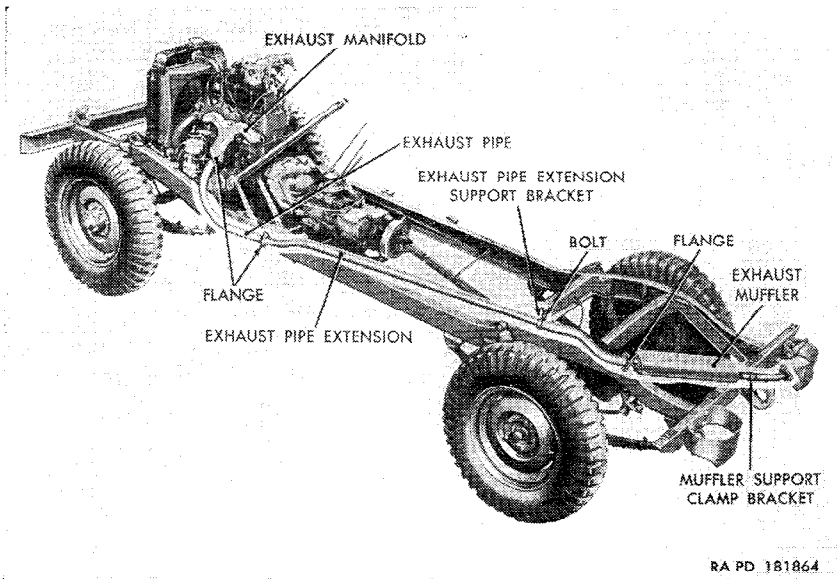
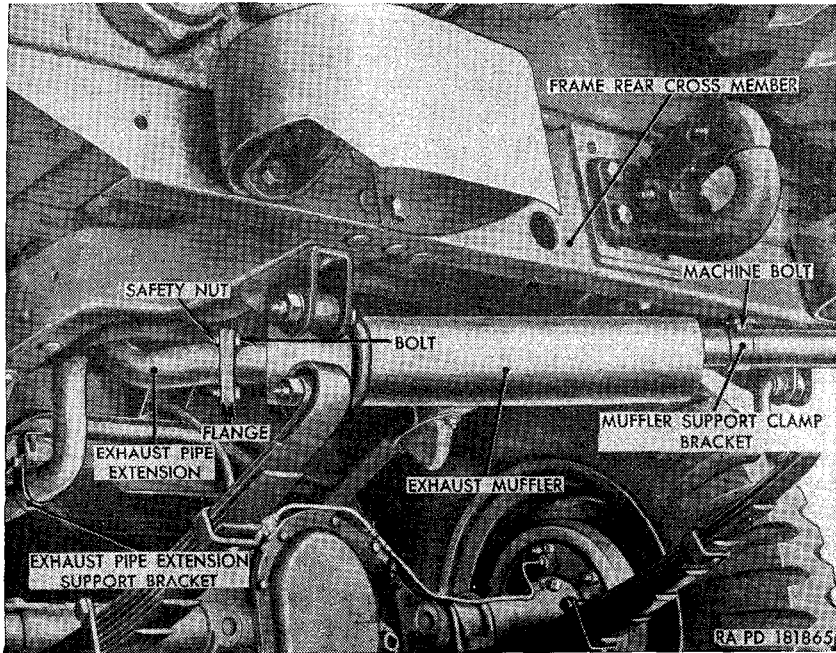

Figure 73. Exhaust system.
Figure 74. Exhaust muffler with bracket assembly—installed.
The exhaust system (fig. 73) includes the exhaust muffler, the exhaust pipe extension, and the exhaust pipe. The system is supported at three points—the exhaust pipe is secured to the exhaust manifold of the engine; the exhaust pipe extension is secured to the frame by a bracket and spacer; and the muffler is secured to the frame by a muffler support clamp bracket around the tail pipe of the muffler assembly.
(fig. 74)
- (1) Remove the three nuts and bolts securing the exhaust pipe extension to the exhaust pipe (fig. 73).
- (2) Remove the three nuts and bolts securing the exhaust pipe extension to the exhaust muffler (fig. 74).
- (3) Loosen the bolt securing the muffler support clamp bracket to the frame rear cross member and slide the muffler back about one inch.
- (4) While supporting the exhaust pipe extension, remove the nut, washer, spacer, and bolt securing the exhaust pipe extension support bracket to the frame cross member.
- (5) Separate the front flange of the exhaust pipe extension from the rear flange of the exhaust pipe, and remove exhaust pipe extension with bracket. Separate and discard gasket from both flanges.
- (1) Clean the flange gasket surfaces. Loosen the nut and bolt in the clamp at the exhaust pipe extension support bracket (fig. 74). Place the exhaust pipe extension in approximate position under the vehicle with the offset end toward the exhaust muffler (fig. 73).
- (2) Insert a  $\frac{5}{16} \times 1\frac{1}{2}$  machine bolt through the bracket (fig. 74) hole and slip the exhaust pipe extension spacer over the bolt. Raise the exhaust pipe extension with bracket into position with the bolt end inserted into the frame cross member hole. Place a  $1\frac{1}{32}$  ID  $\times$   $1\frac{1}{16}$  OD washer over the bolt and screw a  $2\frac{5}{16}$ -inch nut on the threads enough to support the exhaust pipe extension weight.
- (3) Place a new gasket on the front flange of the exhaust pipe extension (fig. 73) and insert three  $\frac{5}{16} \times 1$  bolts through the exhaust pipe flange, gasket, and exhaust pipe extension flange. Start three  $\frac{5}{16}$ -inch nuts on the three bolts, but do not tighten.
- (4) Place a new gasket on the flange of the exhaust muffler (fig. 74). Pull the muffler forward and insert three  $\frac{5}{16} \times 1$  bolts through the muffler flange, gaskets, and rear flange of the exhaust pipe extension. Start three  $\frac{5}{16}$ -inch nuts on the bolts, but do not tighten.
- (5) Tighten the bolts and nuts securing the exhaust pipe extension to the exhaust pipe. Tighten the bolts and nuts securing the exhaust pipe extension to the exhaust muffler (fig. 73). Tighten the bolt securing the exhaust pipe extension support bracket to the frame cross member. Tighten the bolt and nut in the support bracket clamp. Tighten the bolt securing the muffler support clamp bracket (fig. 74) to the frame rear cross member.
- (6) Start engine and check all exhaust connections for leaks.
(fig. 73)